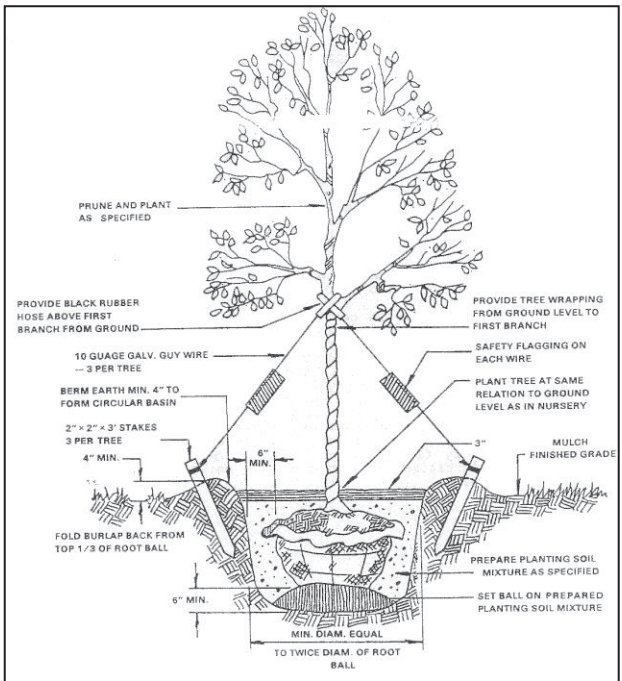

Figure TP-1 Tree Planting Diagram
- Prepare hole to allow proper placement of the root ball. (See Figure TP-1).
- If needed, provide support with stakes and guy wires (see Figure TP-1). Guy wires should be loose enough to allow some movement of the tree.